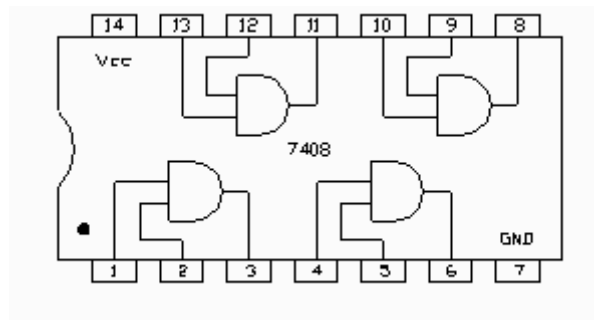

Figure 3: 7408 Pin configurations
- 3- Insert the 7408 IC into the bread-boarding socket, connect pin 14 to +5V and pin 7 to GND. Figure 3 shows the pin configuration for this IC.